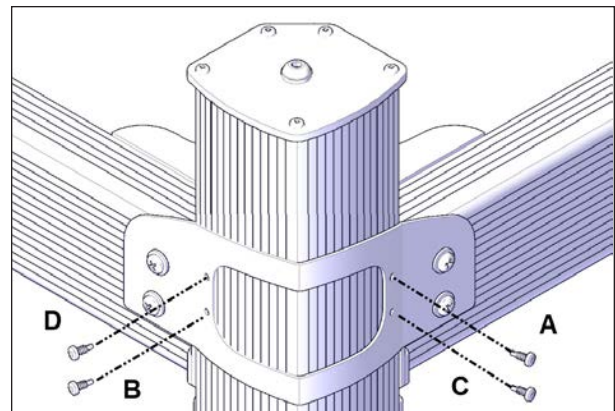

FIGURE 64: INSTALLATION PATTERN FOR CORNER BRACKET SCREWS ATTACHED TO THE SLEEVE
27. Install #8 x 1/2" self-tapping screws (4) to fasten the corner bracket to the sleeve and follow the pattern A to D shown in Figure 64.